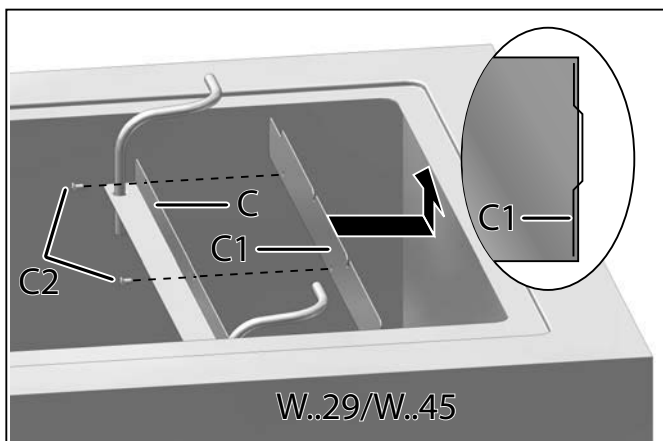

Fig. 9 Fix intermediate rail (C1) and tube suspender (C) to the waterbath
1. Insert the intermediate rail C1 from below behind the frame of the basin so that the rail will stay between the frame and the basin (Fig. 9).